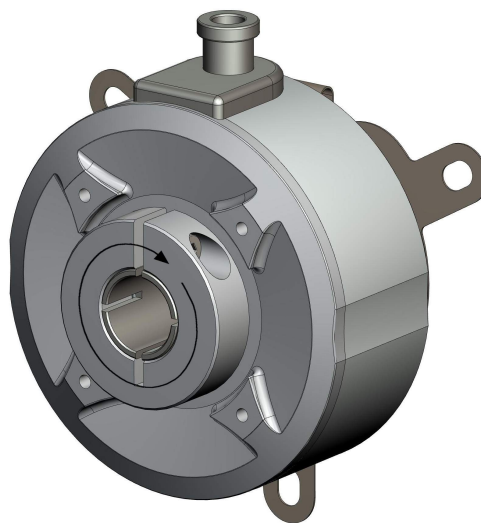

Figure 4 - Counting direction
The **standard counting direction** is to be intended with shaft turning as indicated by the arrow in Figure 4. When the shaft rotates in the direction indicated by the arrow, in the absolute measuring system the count is up; in the incremental measuring system the rising edge of A signal leads the rising edge of B signal. The counting direction cannot be changed.
- The position information increases when the shaft rotates as indicated by the arrow in Figure 4.